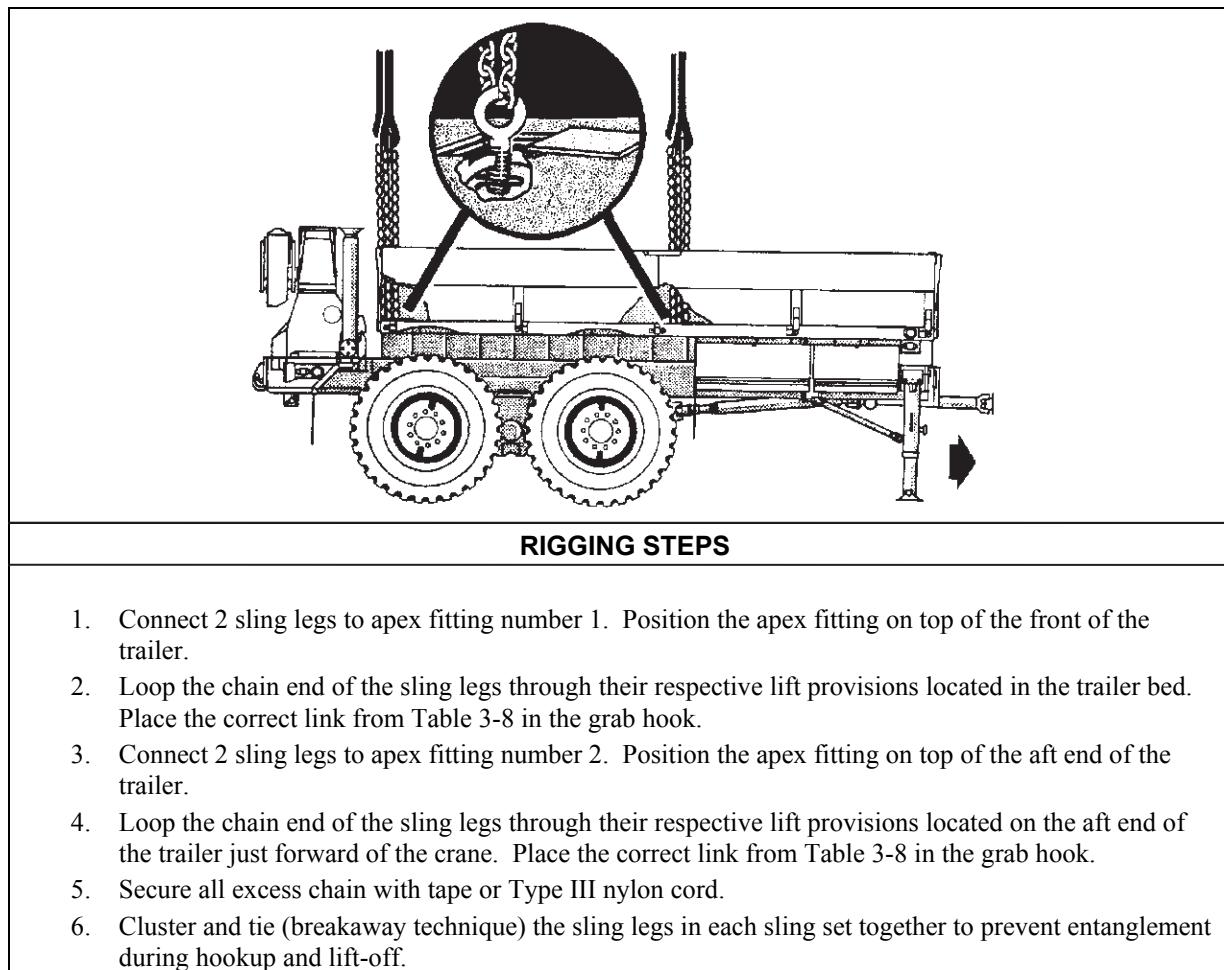

Figure 3-8. Mk17 Trailer, Drop Side, Cargo
- **Rigging.** Rig the load according to the steps in Figure 3-8.